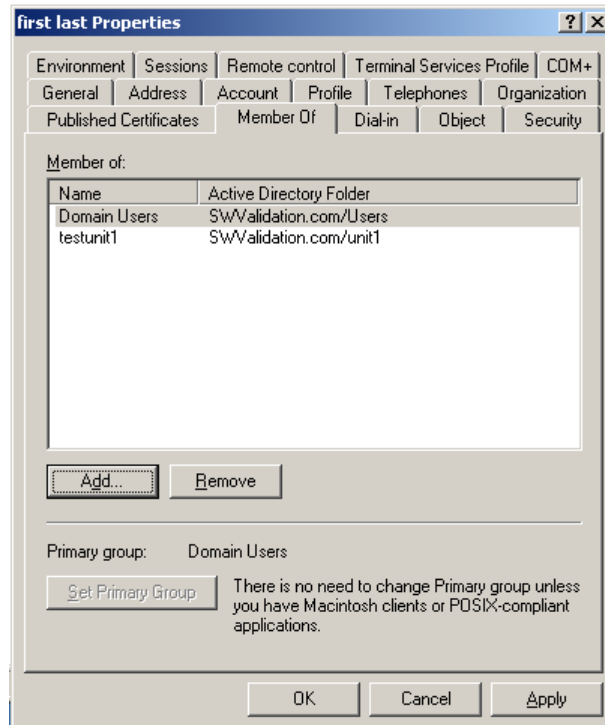

Figure 4.4.7e 'Member of' screen
- Once the new user has been created, right click anywhere in the screen and select Properties (or double click on the user). When the Properties page opens, click on the 'Member Of' tab (figure 4.4.7e).